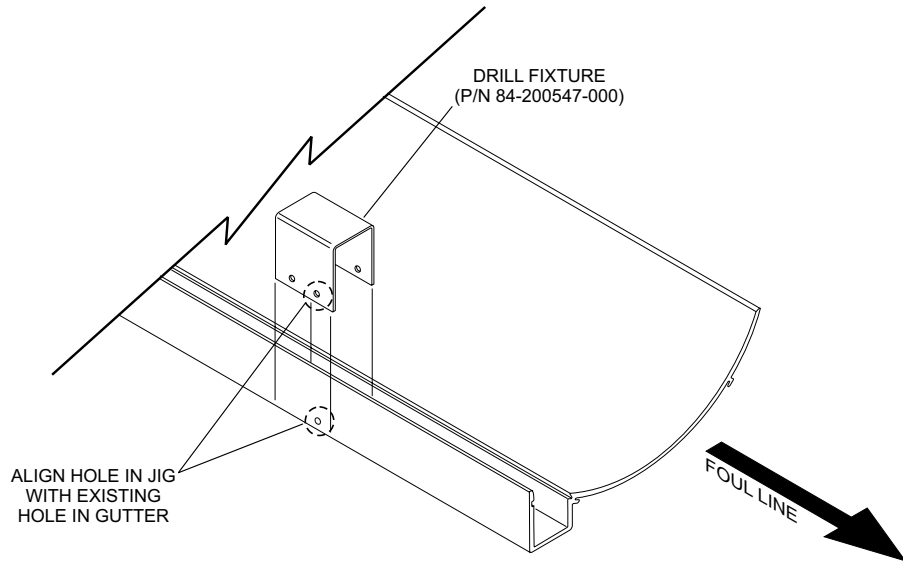

Figure 4
5. Position the drill fixture where the first vertical support was removed, aligning holes as shown in *Figure 4*.